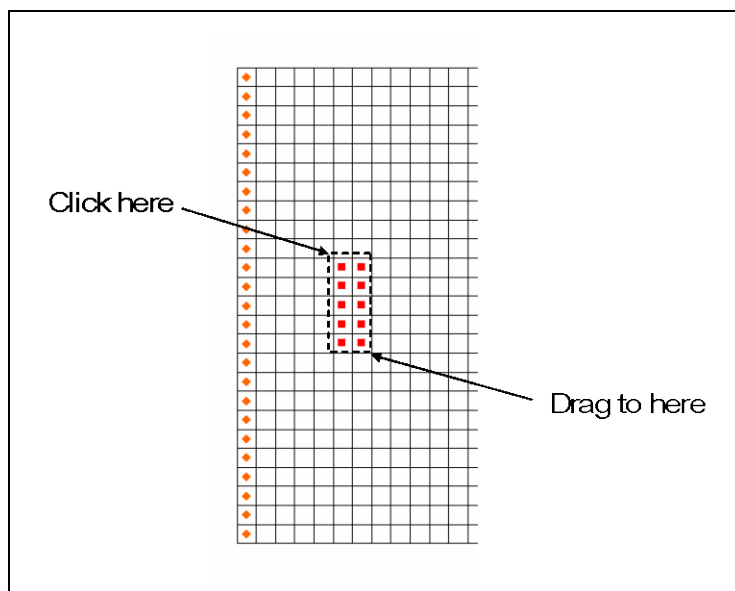

Figure 3. Selecting the cells defining the plume.
4. Drag a rectangle to select a 5x2 rectangular region of cells as shown in Figure 3. The currently selected cell represents the cell in the upper left corner of the grid of cells.